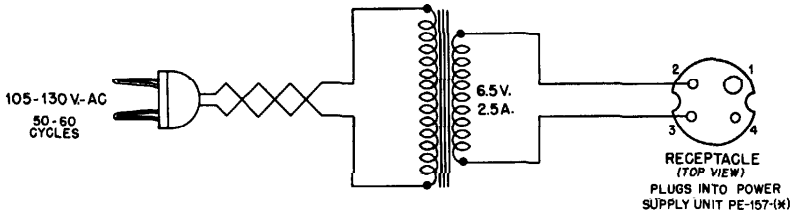

Figure 22. A-C Charger for Charging Battery BB-54-(\*),
c. Battery BB-54-(\*) may be charged from a 105-130 volt a-c source by the use of a step-down transformer, as shown in Figure 22. The secondary leads from this transformer are connected to terminals two and three on the battery-charger current supply connector. The output from this transformer must be 6.5 volts at 2.5 amperes and must have good regulation.